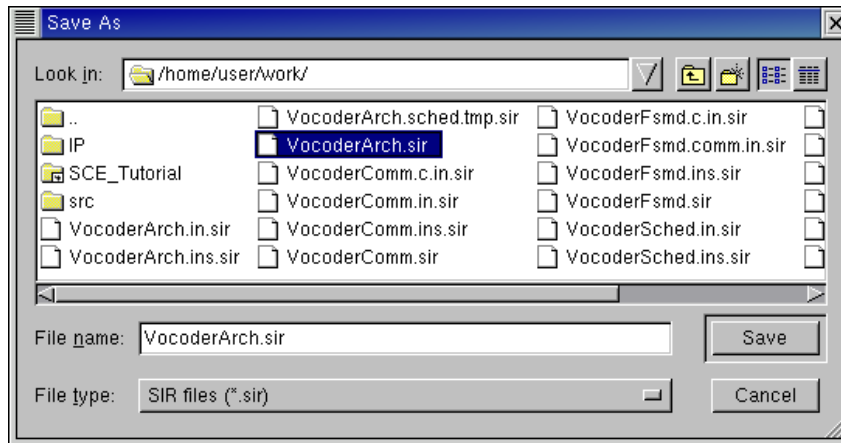

Figure 21: File Save dialog.
- (b) Users can save the file of the currently active Design Window under any (new) name by selecting *Main :: File ⇒ Save As*. The selection will pop up the File Save dialog in which user can choose the directory and file name to save the design under. The screenshot of the File Save dialog is shown in Figure 21. The solid rectangular represents the edit box.